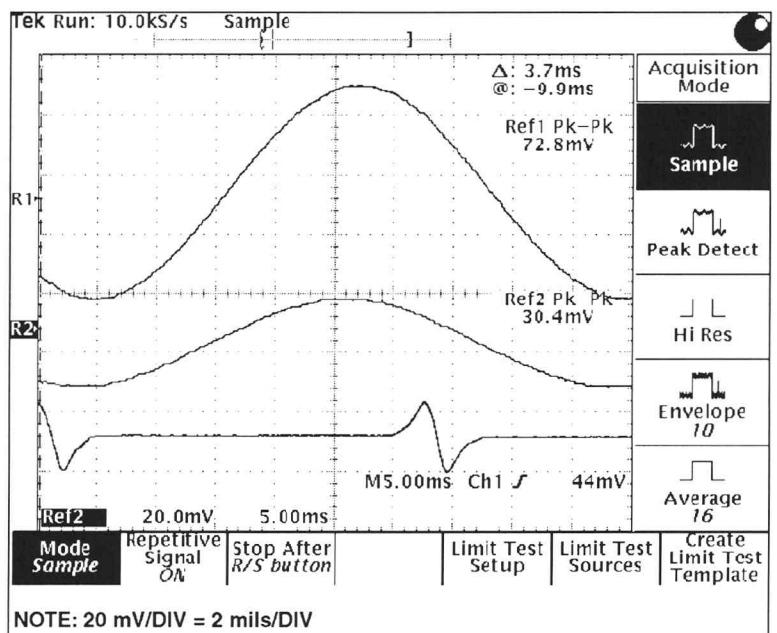

Figure 9.
(4) **Second Run with Trial Weight.** Bring the rotor up to the previous test speed while observing the second rotational marker. Correct speed is reached when the time between the first and second markers is 33 ms (Figure 9). Verify this speed with the vertical measurement cursors.
In this example, Figure 9 shows that a trial weight of 1.08 grams has reduced the left plane displacement from 12.5 mils to 7.3 mils at a phase angle of 40°. The right plane displacement has also been reduced from 5 mils to 3 mils at a phase angle of 40°.